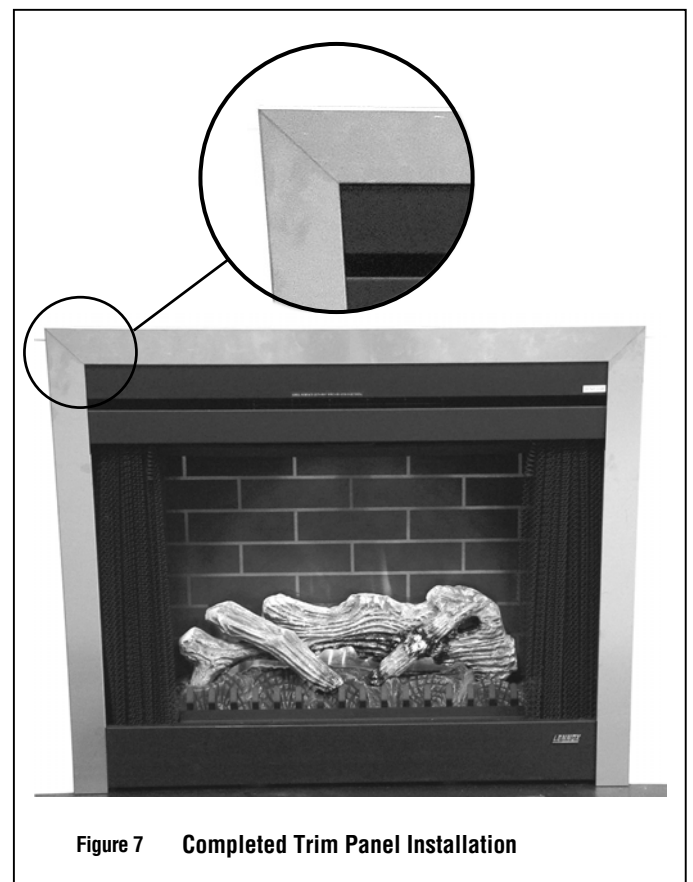

Figure 7 **Completed Trim Panel Installation**
Step 7. Place the Top Trim Panel over the Side Trim Panels as shown in *Figure 7*.